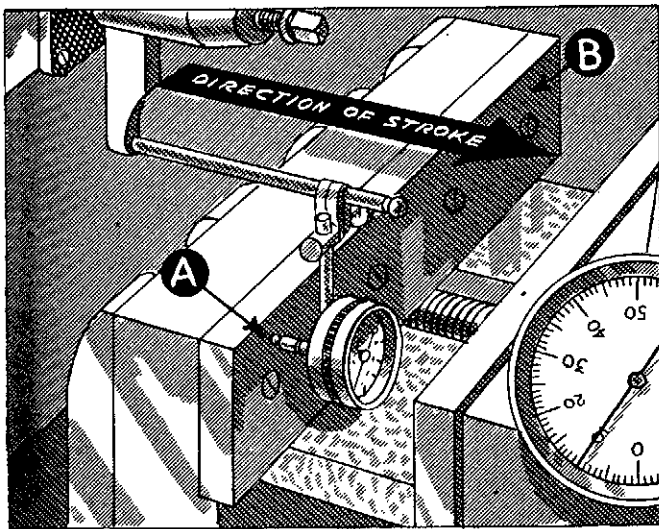

FIG. 163
6. Arrange the indicator near the end of the jaw with the contact point toward, but not touching, the face of the fixed jaw (Fig. 163).
7. Adjust the contact point against the face of the jaw by means of the clamp which holds the indicator to the tool holder. Have the pointer register about ten one-thousandths of an inch on the dial (A, Fig. 163).